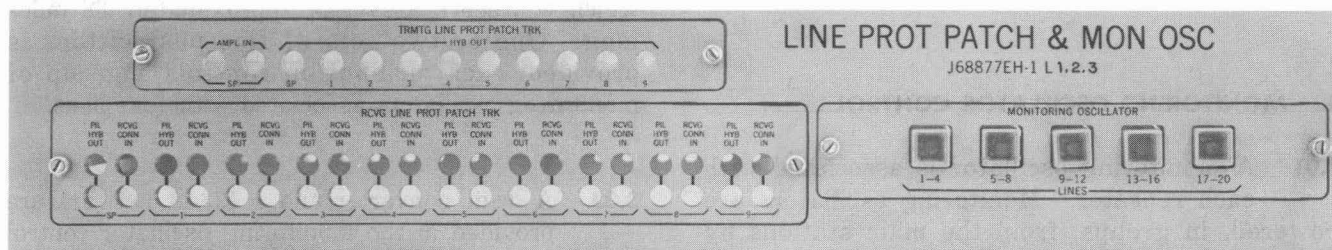

Fig. 1—Line Protection Patch and Monitoring Oscillator Control Panel J68877EH
1.02 The jacks for line patching and the pushbuttons for monitoring oscillator control are mounted on line protection patch and monitoring oscillator control panel J68877EH (Fig. 1) in the control connecting bay.